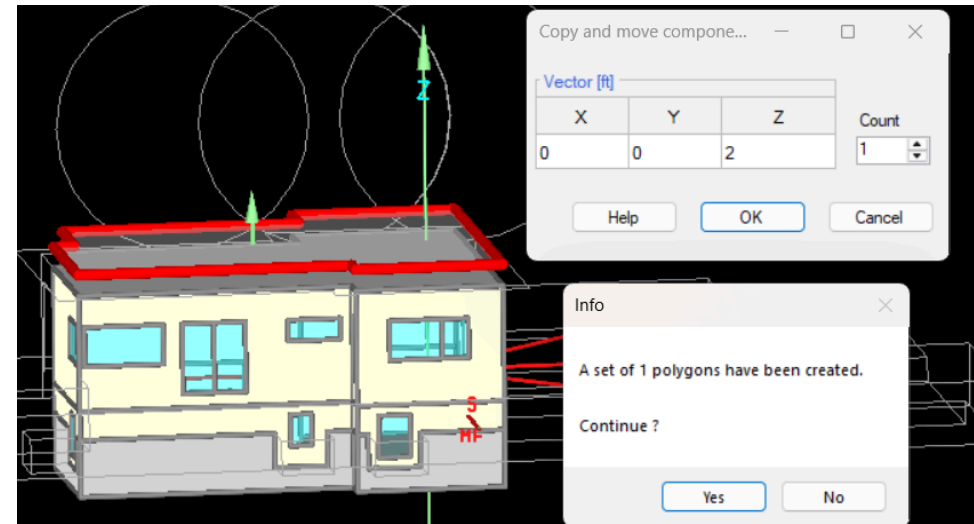

Figure 3.26. Create one additional surface, 2 ft above the original roof.
2. Enter the distance you would like to copy the component in the X, Y, or Z direction(s). Enter the number of copies under Count. Entering “1” will create one copy and leave the original component in place (Figure 3.26).